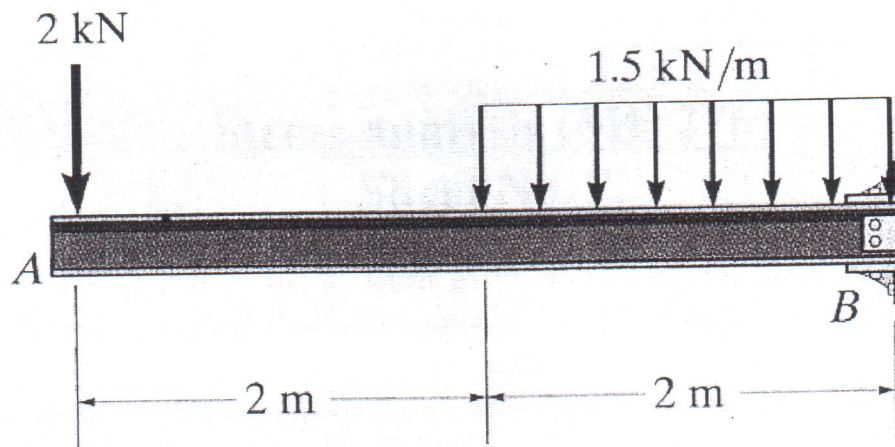

Figure 11.
- (11) For the beams and cantilevers shown in **Figures 11 to 17** Derive the equations of the slope and elastic curve and hence determine, in terms of EI , the maximum displacement.